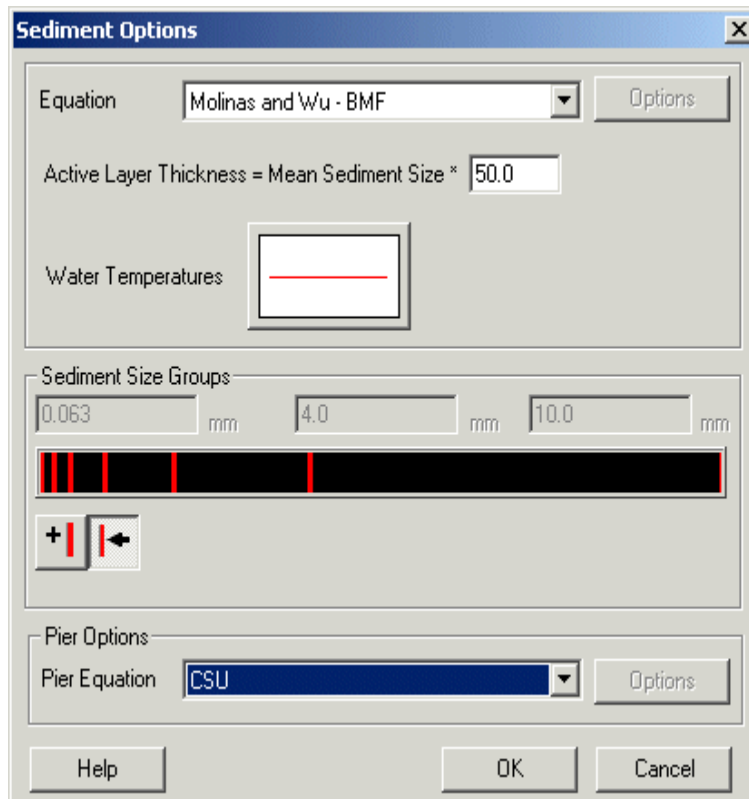

Figure 16-8 The sediment options dialog.
5. The dialog should now look like Figure 16-8. Click *OK* twice to close the dialogs.